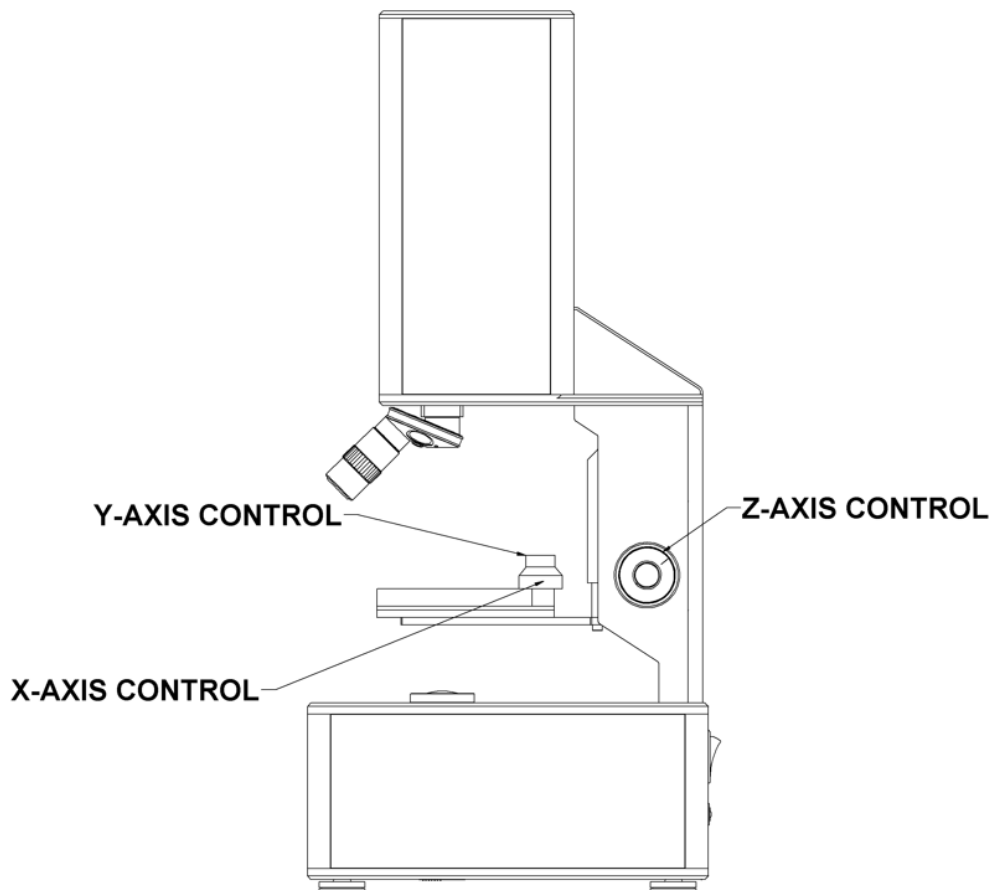

Figure 8 Stage axis controls
2. Using the manual adjusters, move the sample to the desired location on the software's live screen. The adjustment knob controls both the X and Y-axis adjustments. The X-axis is controlled by the bottom part of the knob. The Y-axis is controlled by the top part of the knob. See Figure 8.